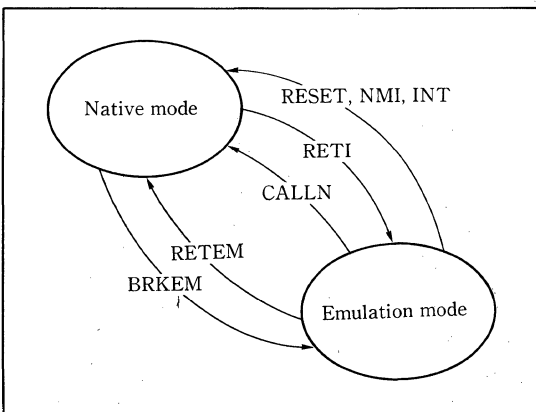

Fig. 7 V30 Modes
The LH70116 has two operating modes (Fig. 7). One is the native mode, the other is the emulation mode in which the instruction set of the 8080A is emulated. A mode flag (MD) is provided to select between these two modes. Native mode is selected when MD is 1 and emulation mode when MD is 0. MD is set and reset, directly and indirectly, by executing the mode manipulation instructions.